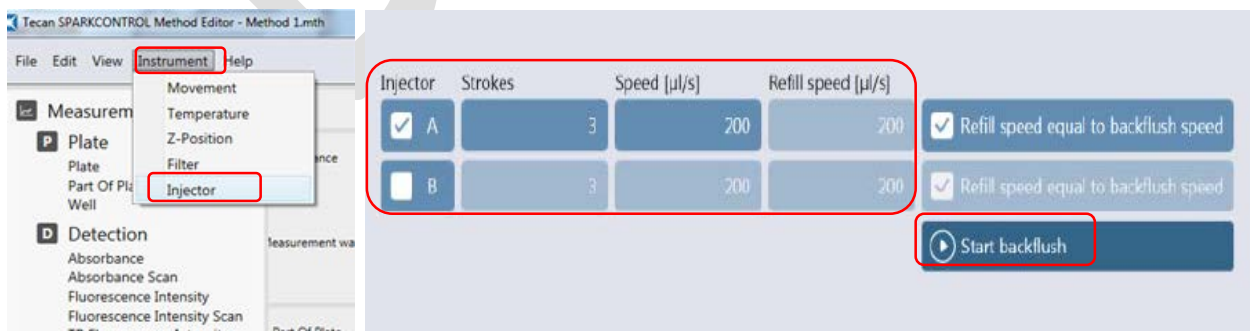

Fig. 19 Rinse parameters
- c. Press the Rinse button on the injector box to start the rinsing procedure or from the software. (Define all the rinse parameters and click start backflush to start fig.19).